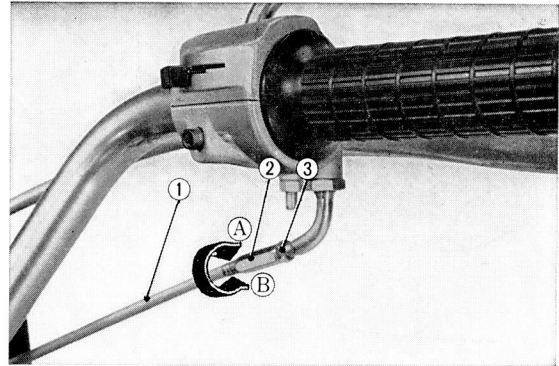

Fig. 4.8 Throttle cable play adjustment
2. Connect the throttle cable to the throttle grip and adjust the play with the nut ②. (Fig. 4.8)